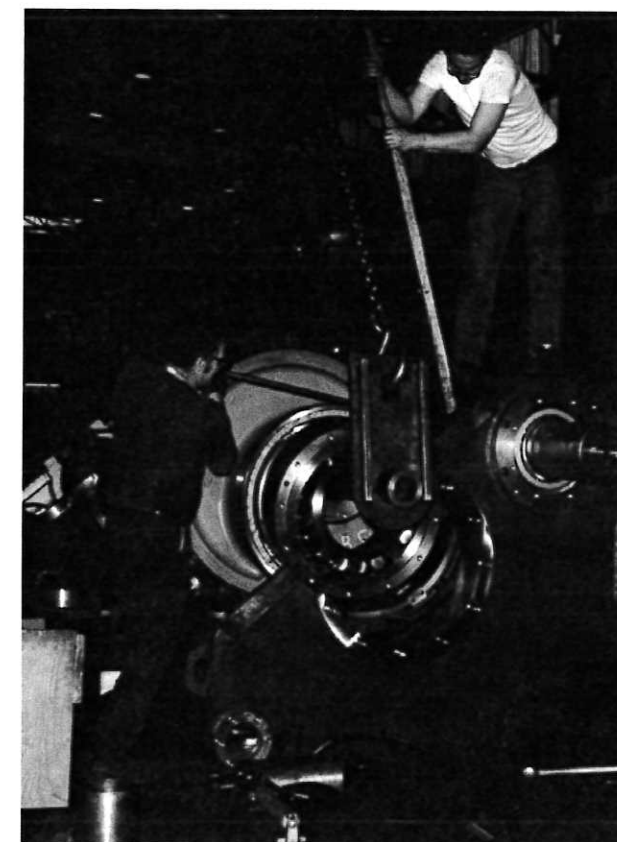

FIGURE 19
3. As eccentric moves into position, the connecting rods must be lifted and guided into position as they come in contact with the eccentric. See FIGURE 19, page 22.